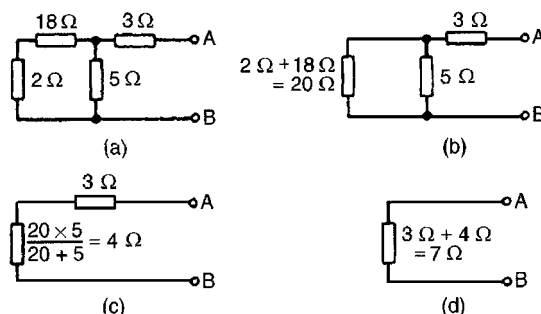

Figure 13.31
- (iv) The resistance 'looking-in' at terminals AB in Fig. 13.31(a) is obtained by reducing the circuit in stages as shown in Figures 13.31(b) to (d). Hence the equivalent resistance across AB is $7\ \Omega$.